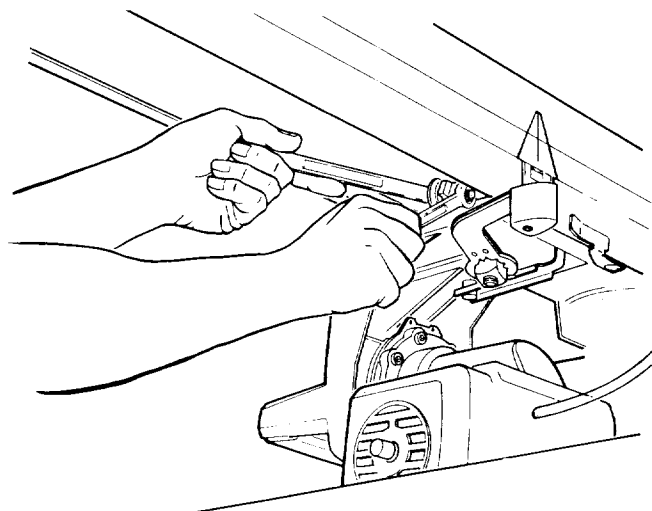

Fig. 70
6. Loosen the hex nut on the *rear carriage bearing*. Use a 9/16 inch wrench to hold the bolt and a 1/2 inch wrench to loosen the nut. (Figure 70)